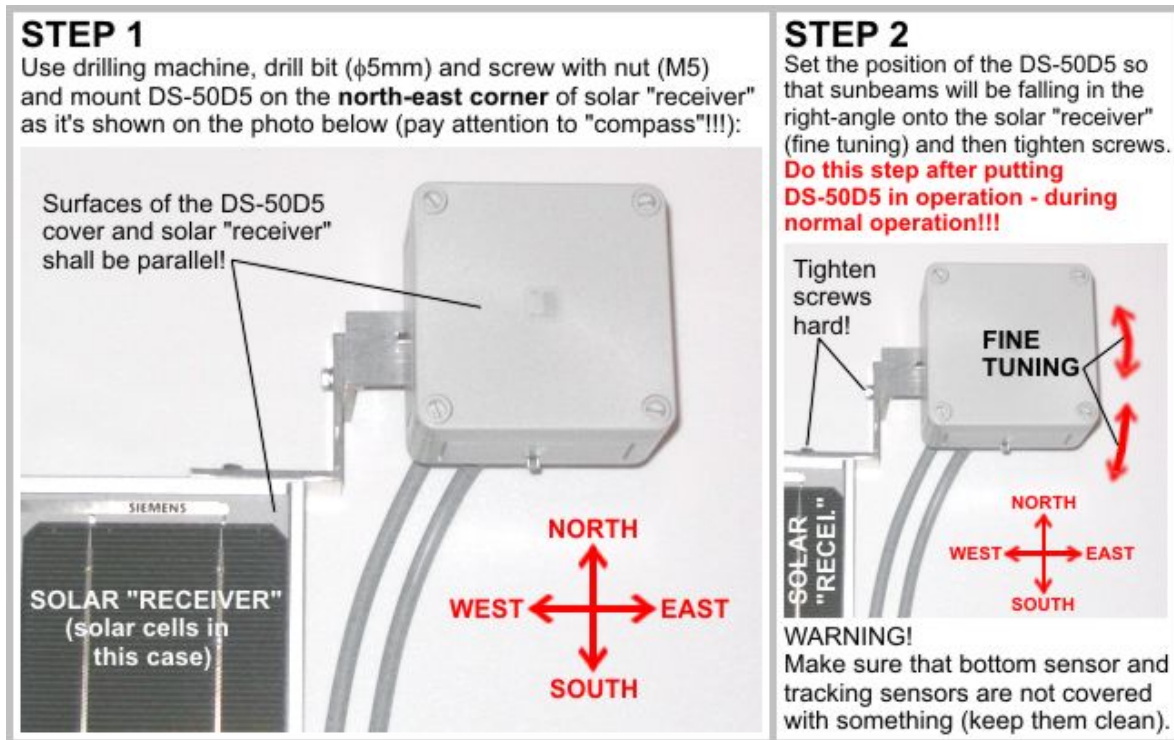

Figure 7: Mounting DS-50D5 on the solar "receiver" (northern hemisphere)
a) If your tracker (solar "receiver") is positioned somewhere in the northern hemisphere of the earth mount DS-50D5 on the north-east corner of your solar "receiver" as it's shown on Figure 7: